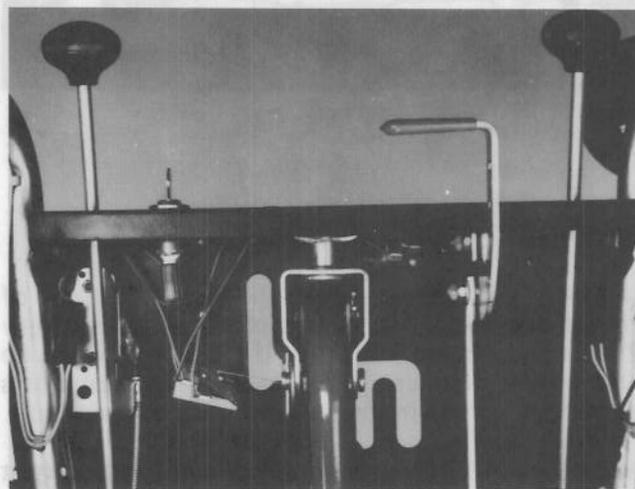

Figure 31
1. Lubricate pivot points in the control linkage with a few drops of oil (Fig. 31). Wipe up any excess oil and grease.